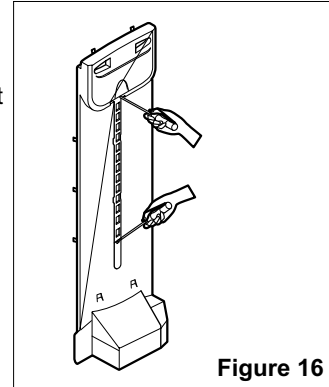

Figure 16
1. Remove the upper and lower Caps by using a flat screwdriver, and remove 2 screws. (Figure 16)